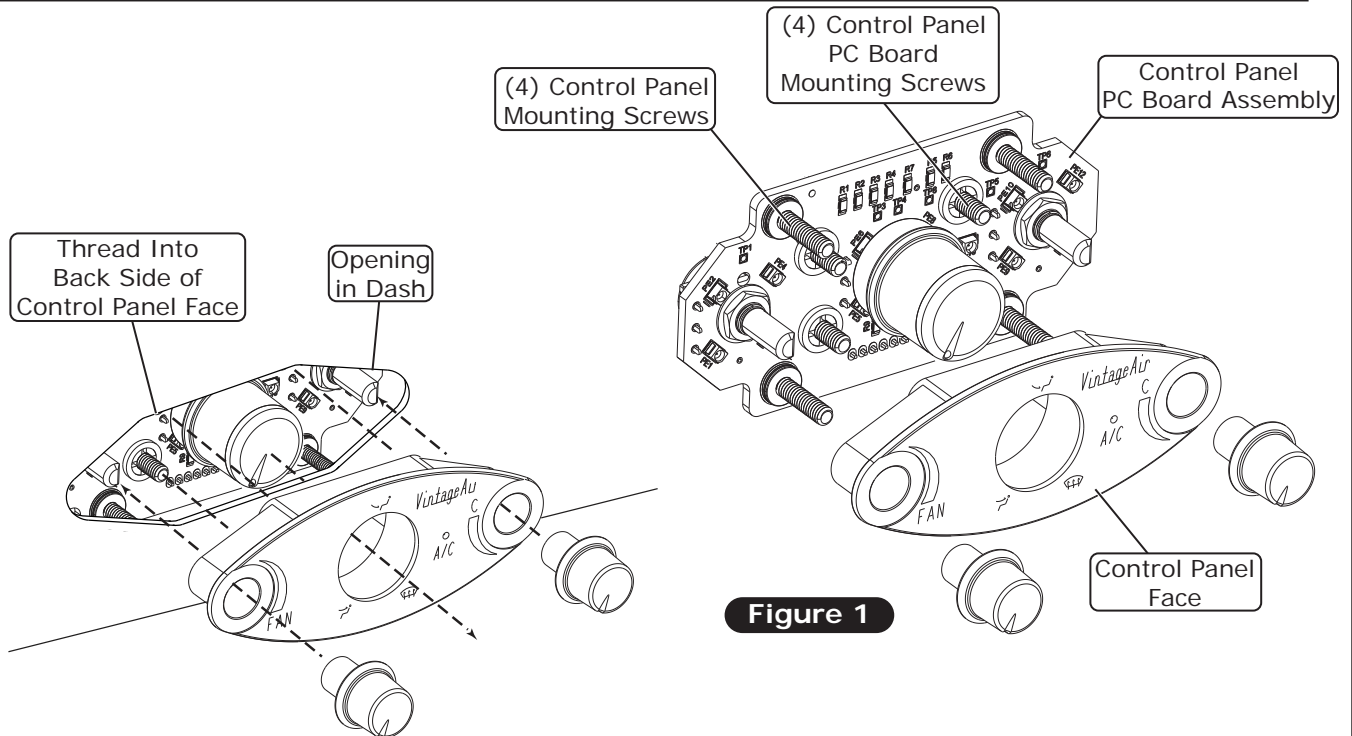

Figure 1
**NOTE:** Do not install the (2) control panel knobs onto the control panel assembly until the panel has been installed in the dash. For knob removal after installation, refer to the Control Panel Removal instructions on Page 6. DO NOT attempt to remove the knobs using pliers.
4. Install the control panel face through the opening in the dash. Place the control panel PC board assembly behind the dash, and secure it to the control panel face using the (4) 8-32 x 3/8" screws (See Figure 1 and 2a, Page 5). **NOTE: When tightening the control panel mounting screws, hand tighten until the screw contacts the back side of the dash. Then, using a screwdriver, tighten an additional 1/2 turn. Do not overtighten, as this may cause damage to the PC board or the dash.**
5. Install the control panel knobs (See Figure 1, Page 5).